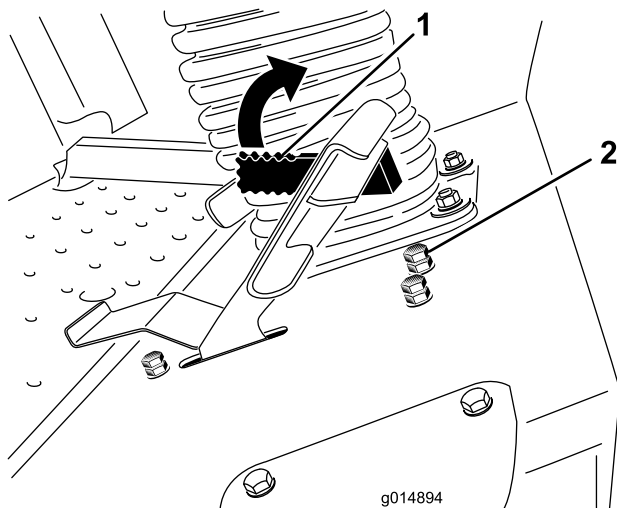

Figure 51
The speed limiter lever (Figure 51) can be flipped forward to limit the traction speed while operating.
3. Loosen the jam nut on the speed limiter stop bolt (Figure 51).